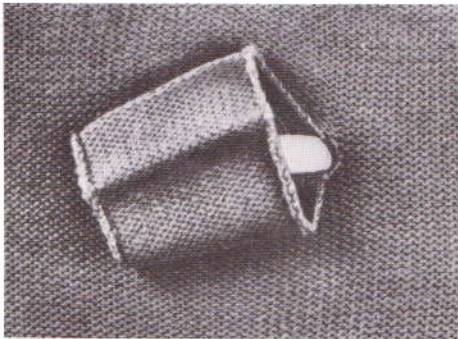

Fig. 180
- The two edges of the pocket are to be slip stitched (fig. 180).